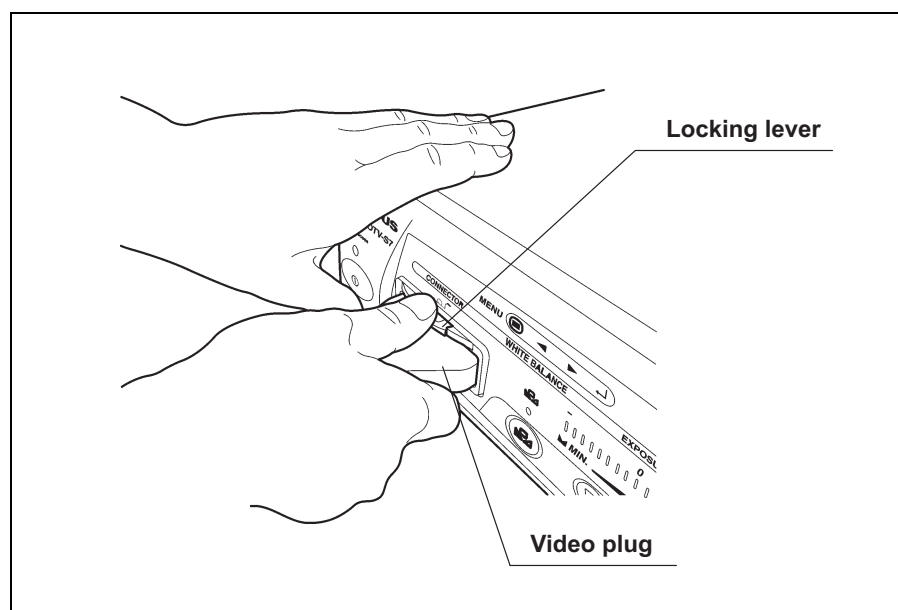

Figure 3.15
2. Hold the OTV-S7V stationary with one hand. With the other hand, press the video connector socket's locking lever and pull the video plug straight out (see Figure 3.15).